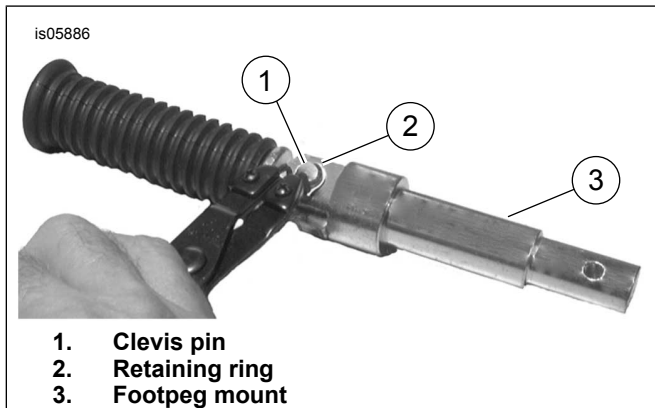

Figure 3. Install Footpeg
3. See Figure 3. Remove the retaining ring and clevis pin from the footpeg. Remove the footpeg and spring clip. Save the spring clip and discard the footpeg mount, retaining ring and clevis pin. Repeat for other footpeg.